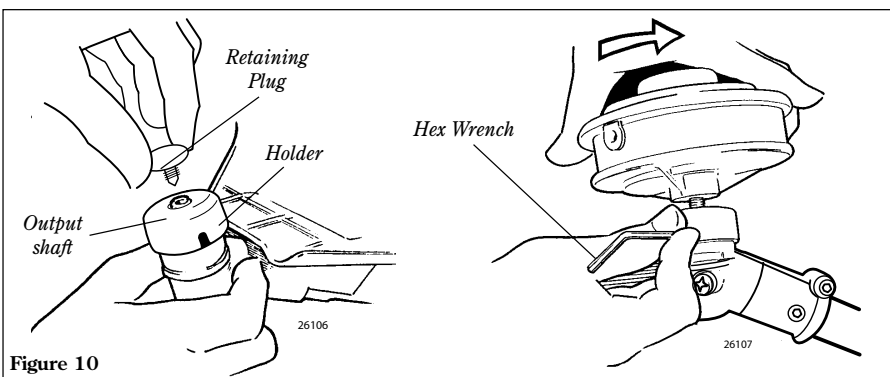

Figure 10
2. Remove and discard the black plastic retaining plug from the output shaft. See Figure 10.
3. Rotate the holder until the hole in the holder aligns with the notch on the gearcase. Use the long end of the hex wrench to lock the holder and output shaft. See Figure 10.